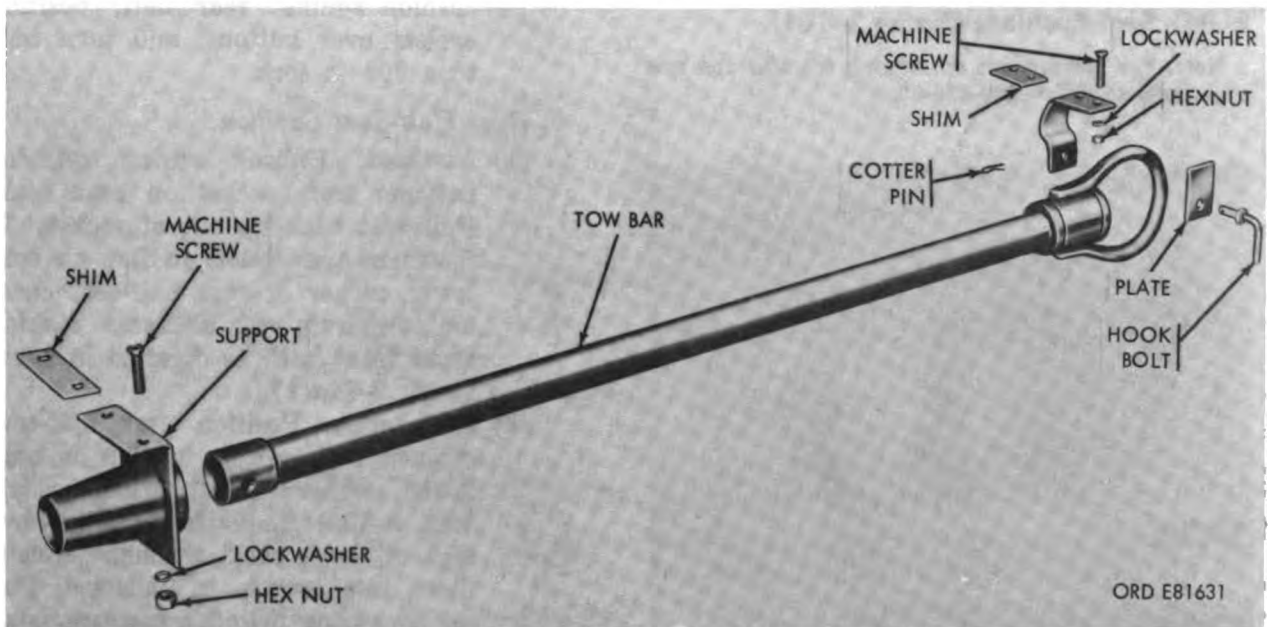
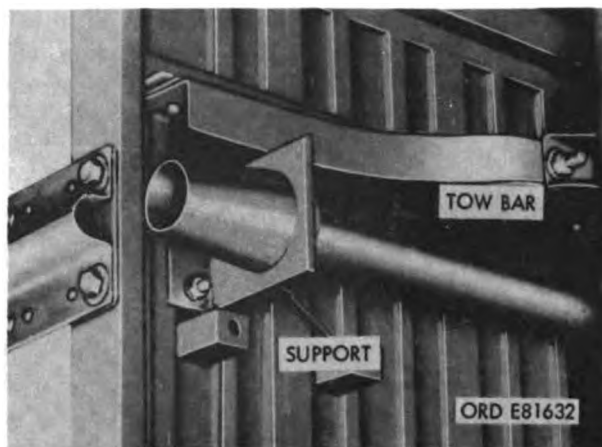

Figure 2-99. Tow bar bracket and support—exploded view.
Figure 2-100. Tow bar support.
*a. Removal.* Remove two hex nuts, two lockwashers, and two machine screws securing tow bar bracket to underside of platform (right), and remove bracket. If necessary to replace hook bolt, remove cotter pin from bolt, then remove bolt and plate from bracket (fig. 2-99).
*b. Installation.* For installation of the tow bar bracket, reverse removal procedure in paragraph 2-81a(1) above.
**2-82. Tow Bar Support (Figure 2-100)**
ing tow bar support to underside of platform, and remove shim and support (fig. 2-99).